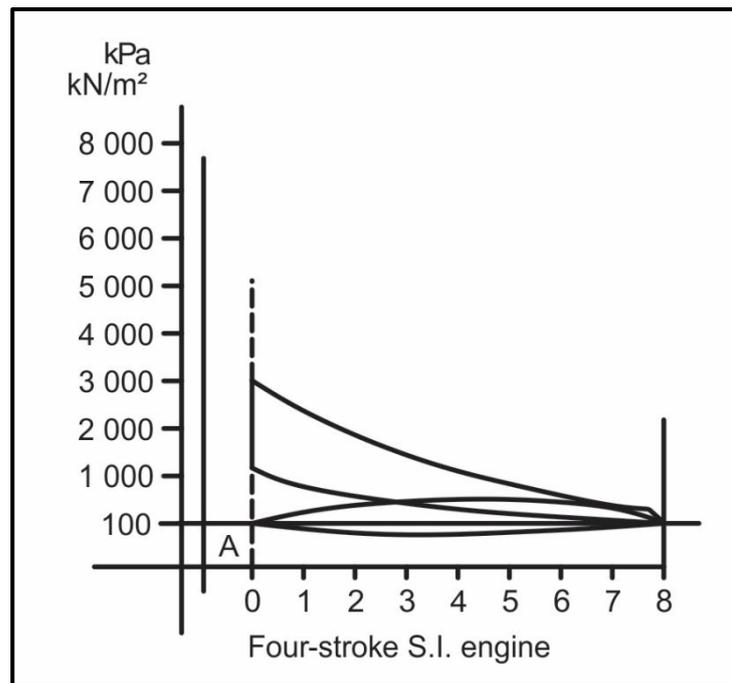

FIGURE 7.2
7.2 FIGURE 7.2 below shows a diagram of a four-stroke, spark-ignition (S.I.) engine. Answer the questions that follow.
7.2.1 Identify the diagram in FIGURE 7.2. (1)